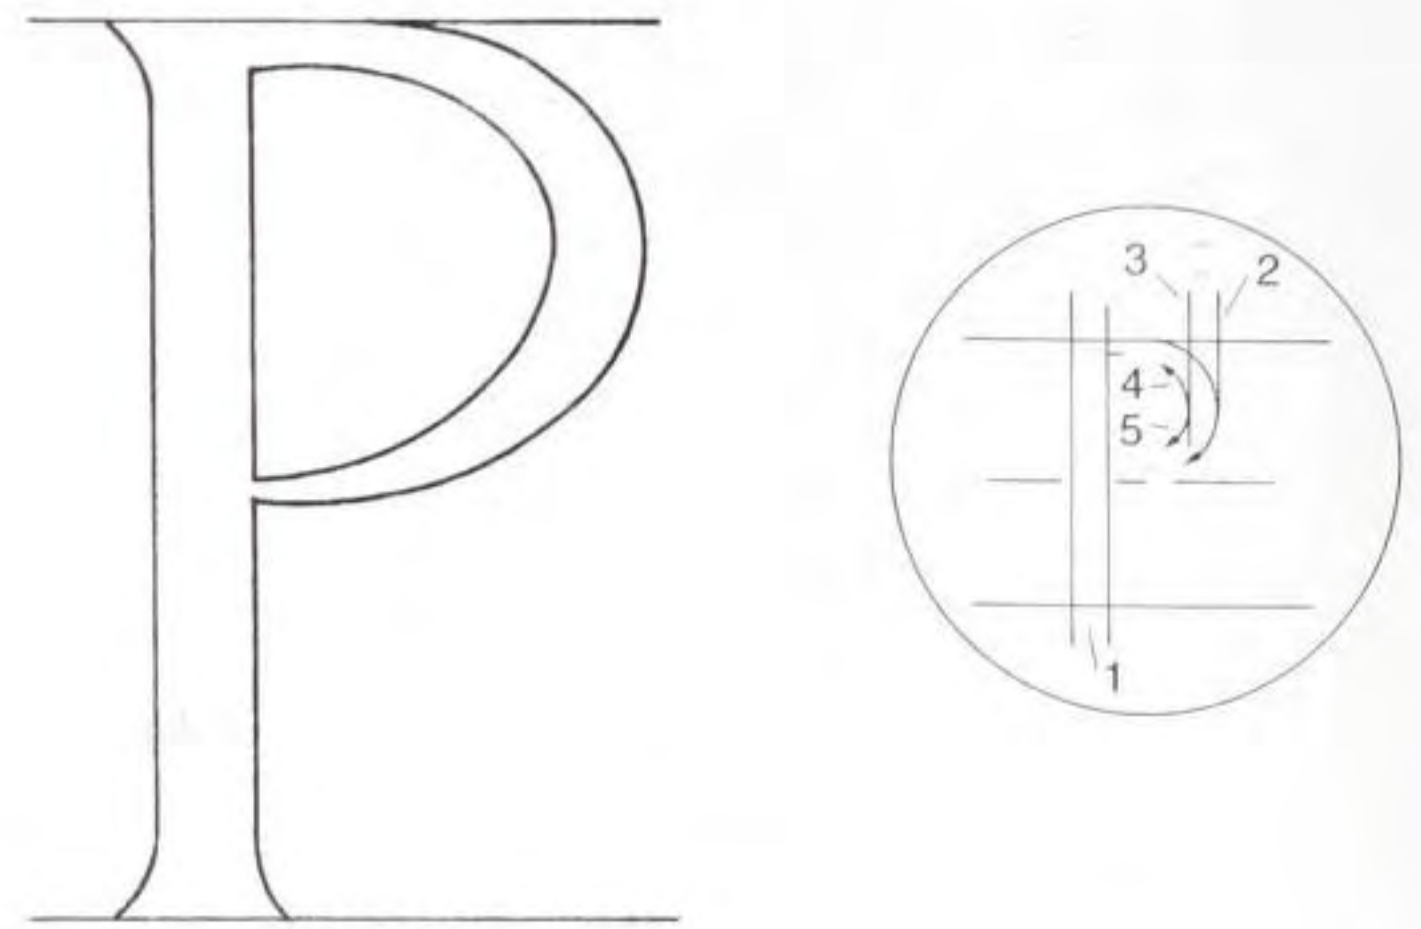

Fig 5.112 P: construction.
- 1 Refer to Fig 5.112. Carve the upright trench.